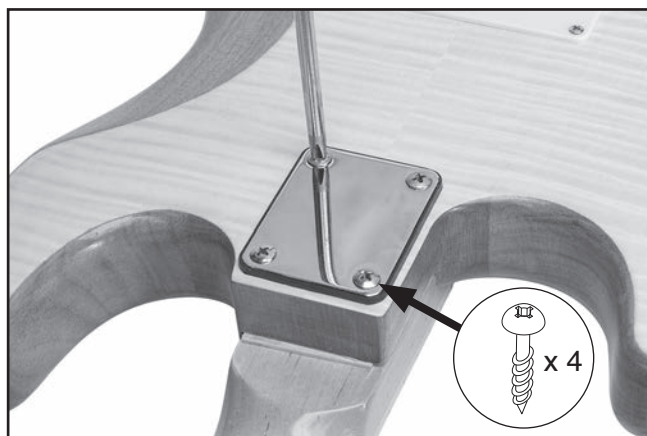

Figure 9. Mounting neck to body.
13. Secure neck with (4) M5 x 40 wood screws (see **Figure 9**).